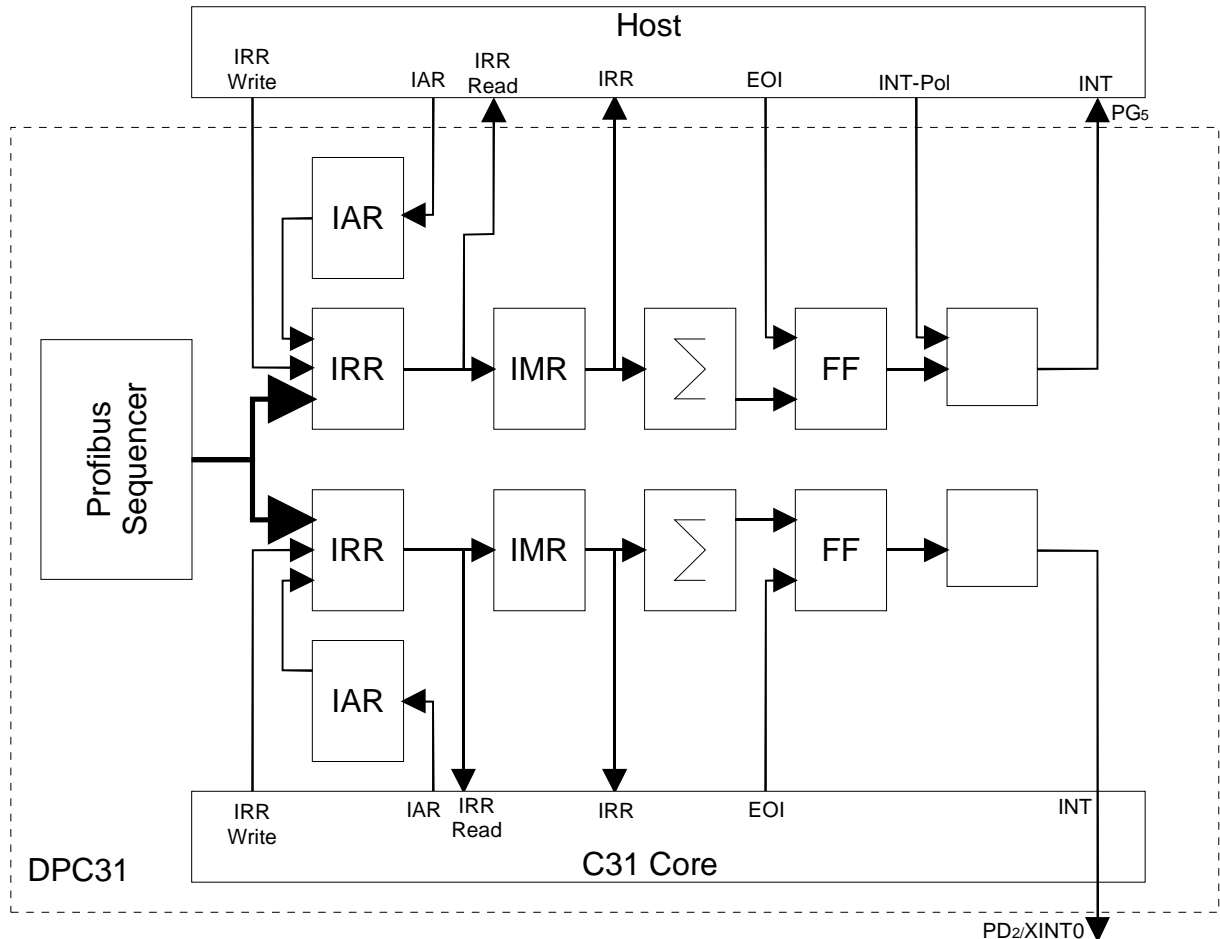

Figure 7.1-6: Interrupt Controller of the µP Interface and C31 Core in the DPC31
It consists of the following: an interrupt request register (IRR), interrupt mask register (IMR), interrupt register (IR) and an interrupt acknowledge register (IAR). The structure is shown in Figure 7.1-6.